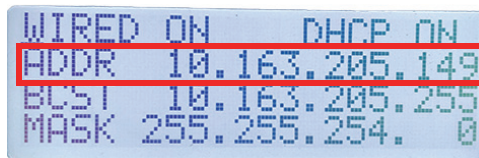

Figure 4-4 Network-assigned IP address
5. After the BTX III has restarted, navigate back through **Main Menu > Advanced Menu > Configure Network > DHCP Menu** to view the network-assigned IP address (see Figure 4-4 on page 60).